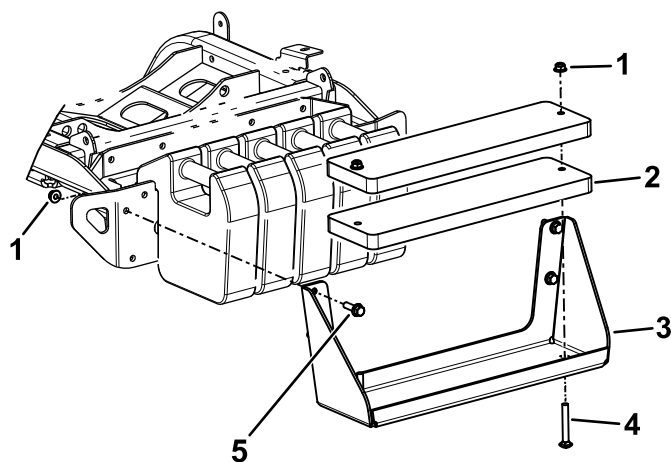

Figure 1
1. Use 4 hex-head bolts to secure the weight bracket to the bumper (Figure 1).
2. Use 2 carriage bolts and 2 nuts to secure the weights to the weight bracket (Figure 1).